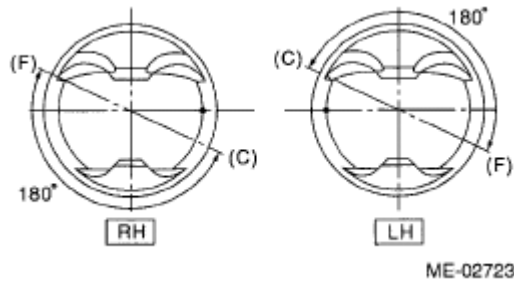

Fig. 173: Positioning Expander Gap
17. Position the expander gap at (F) in **Fig. 173**.